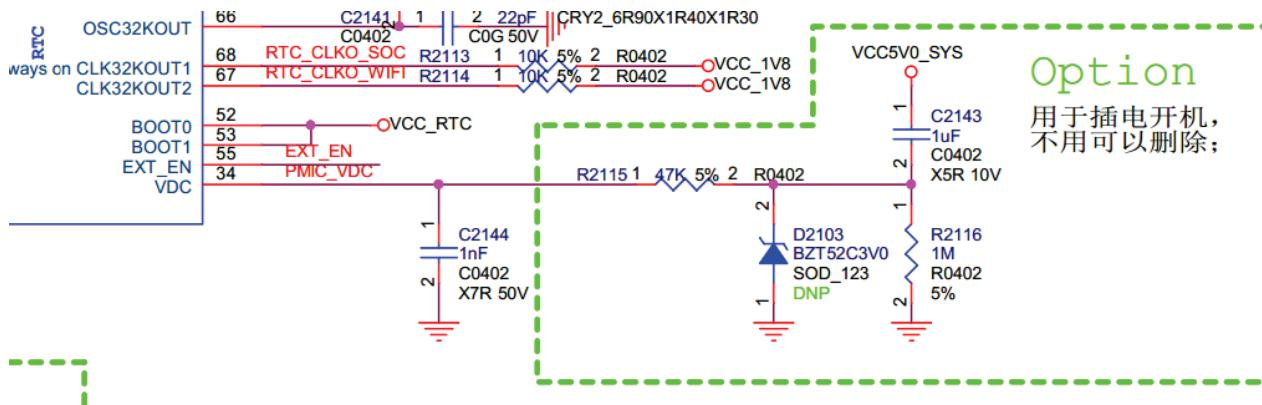

Figure 3-30 VDC Application circuit 2
- In the product need to be automatically boot and can be powered down use power-key. the level of VDS must to be pulled-up when PMIC boot, and should to be pulled-down after about 500ms . Shown as Figure 3-30.